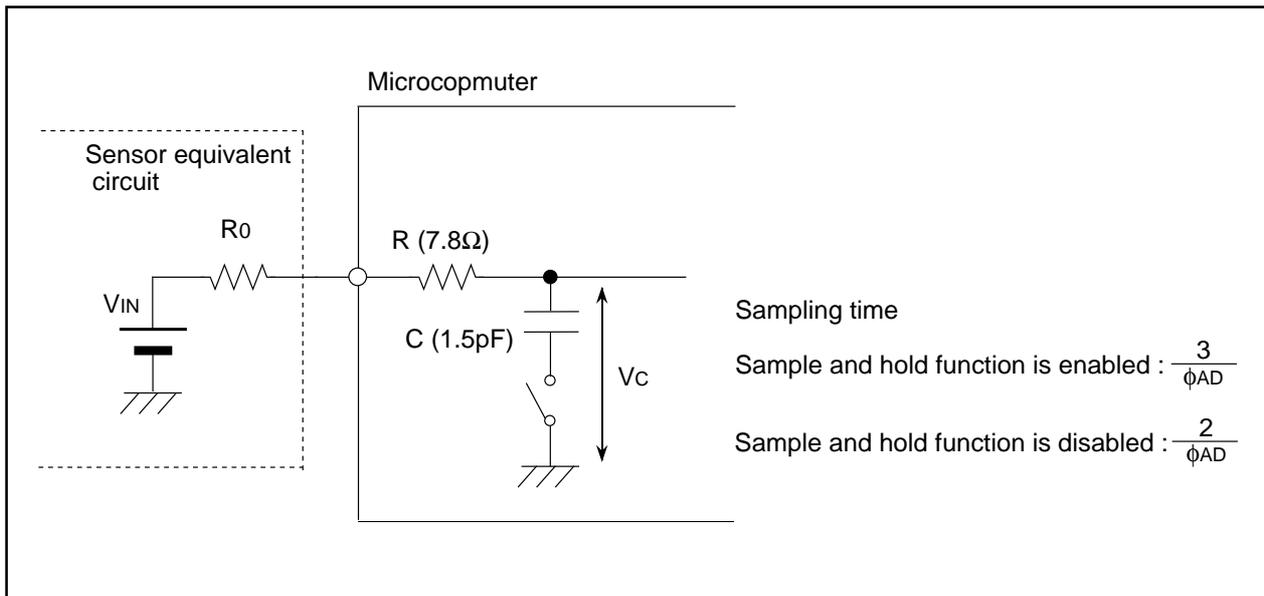

Figure 17.8 Analog Input Pin and External Sensor Equivalent Circuit
For perfect A/D converter performance, complete internal capacitor (C) charging, shown in Figure 17.8, for the specified period (T) as sampling time. Output Impedance of the sensor equivalent circuit (R0) is determined by the following equations:
Figure 17.8 shows analog input pin and external sensor equivalent circuit. The impedance (R0) can be obtained if the voltage between pins (VC) changes from 0 to VIN - (0.1/1024) VIN in the time (T), when the difference between VIN and VC becomes 0.1LSB.